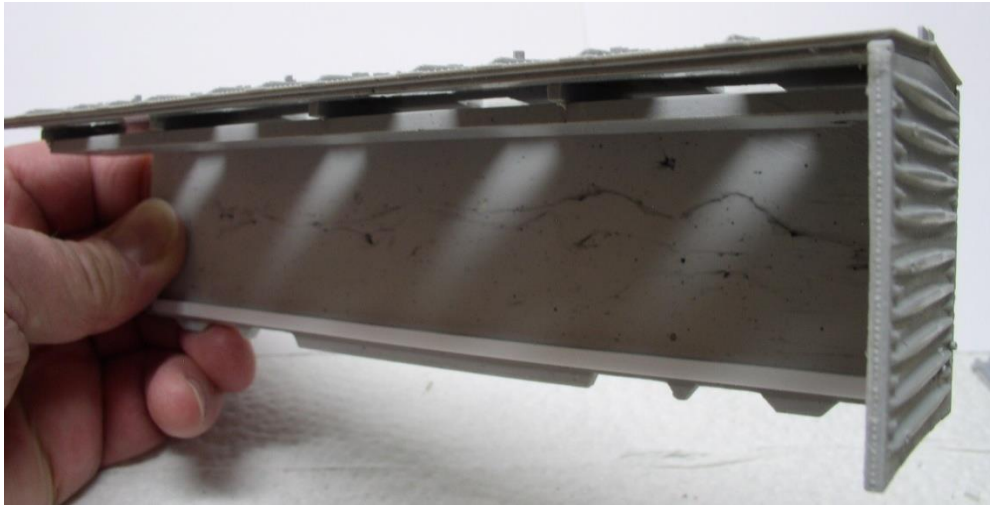

Figure BD1
1. Take one of the ends. Line it up with the roof and glue in place. See Figure BD1.
2. Take one of the sides. Line it up with the roof and end and tack glue in place. See Figure BD1 again.